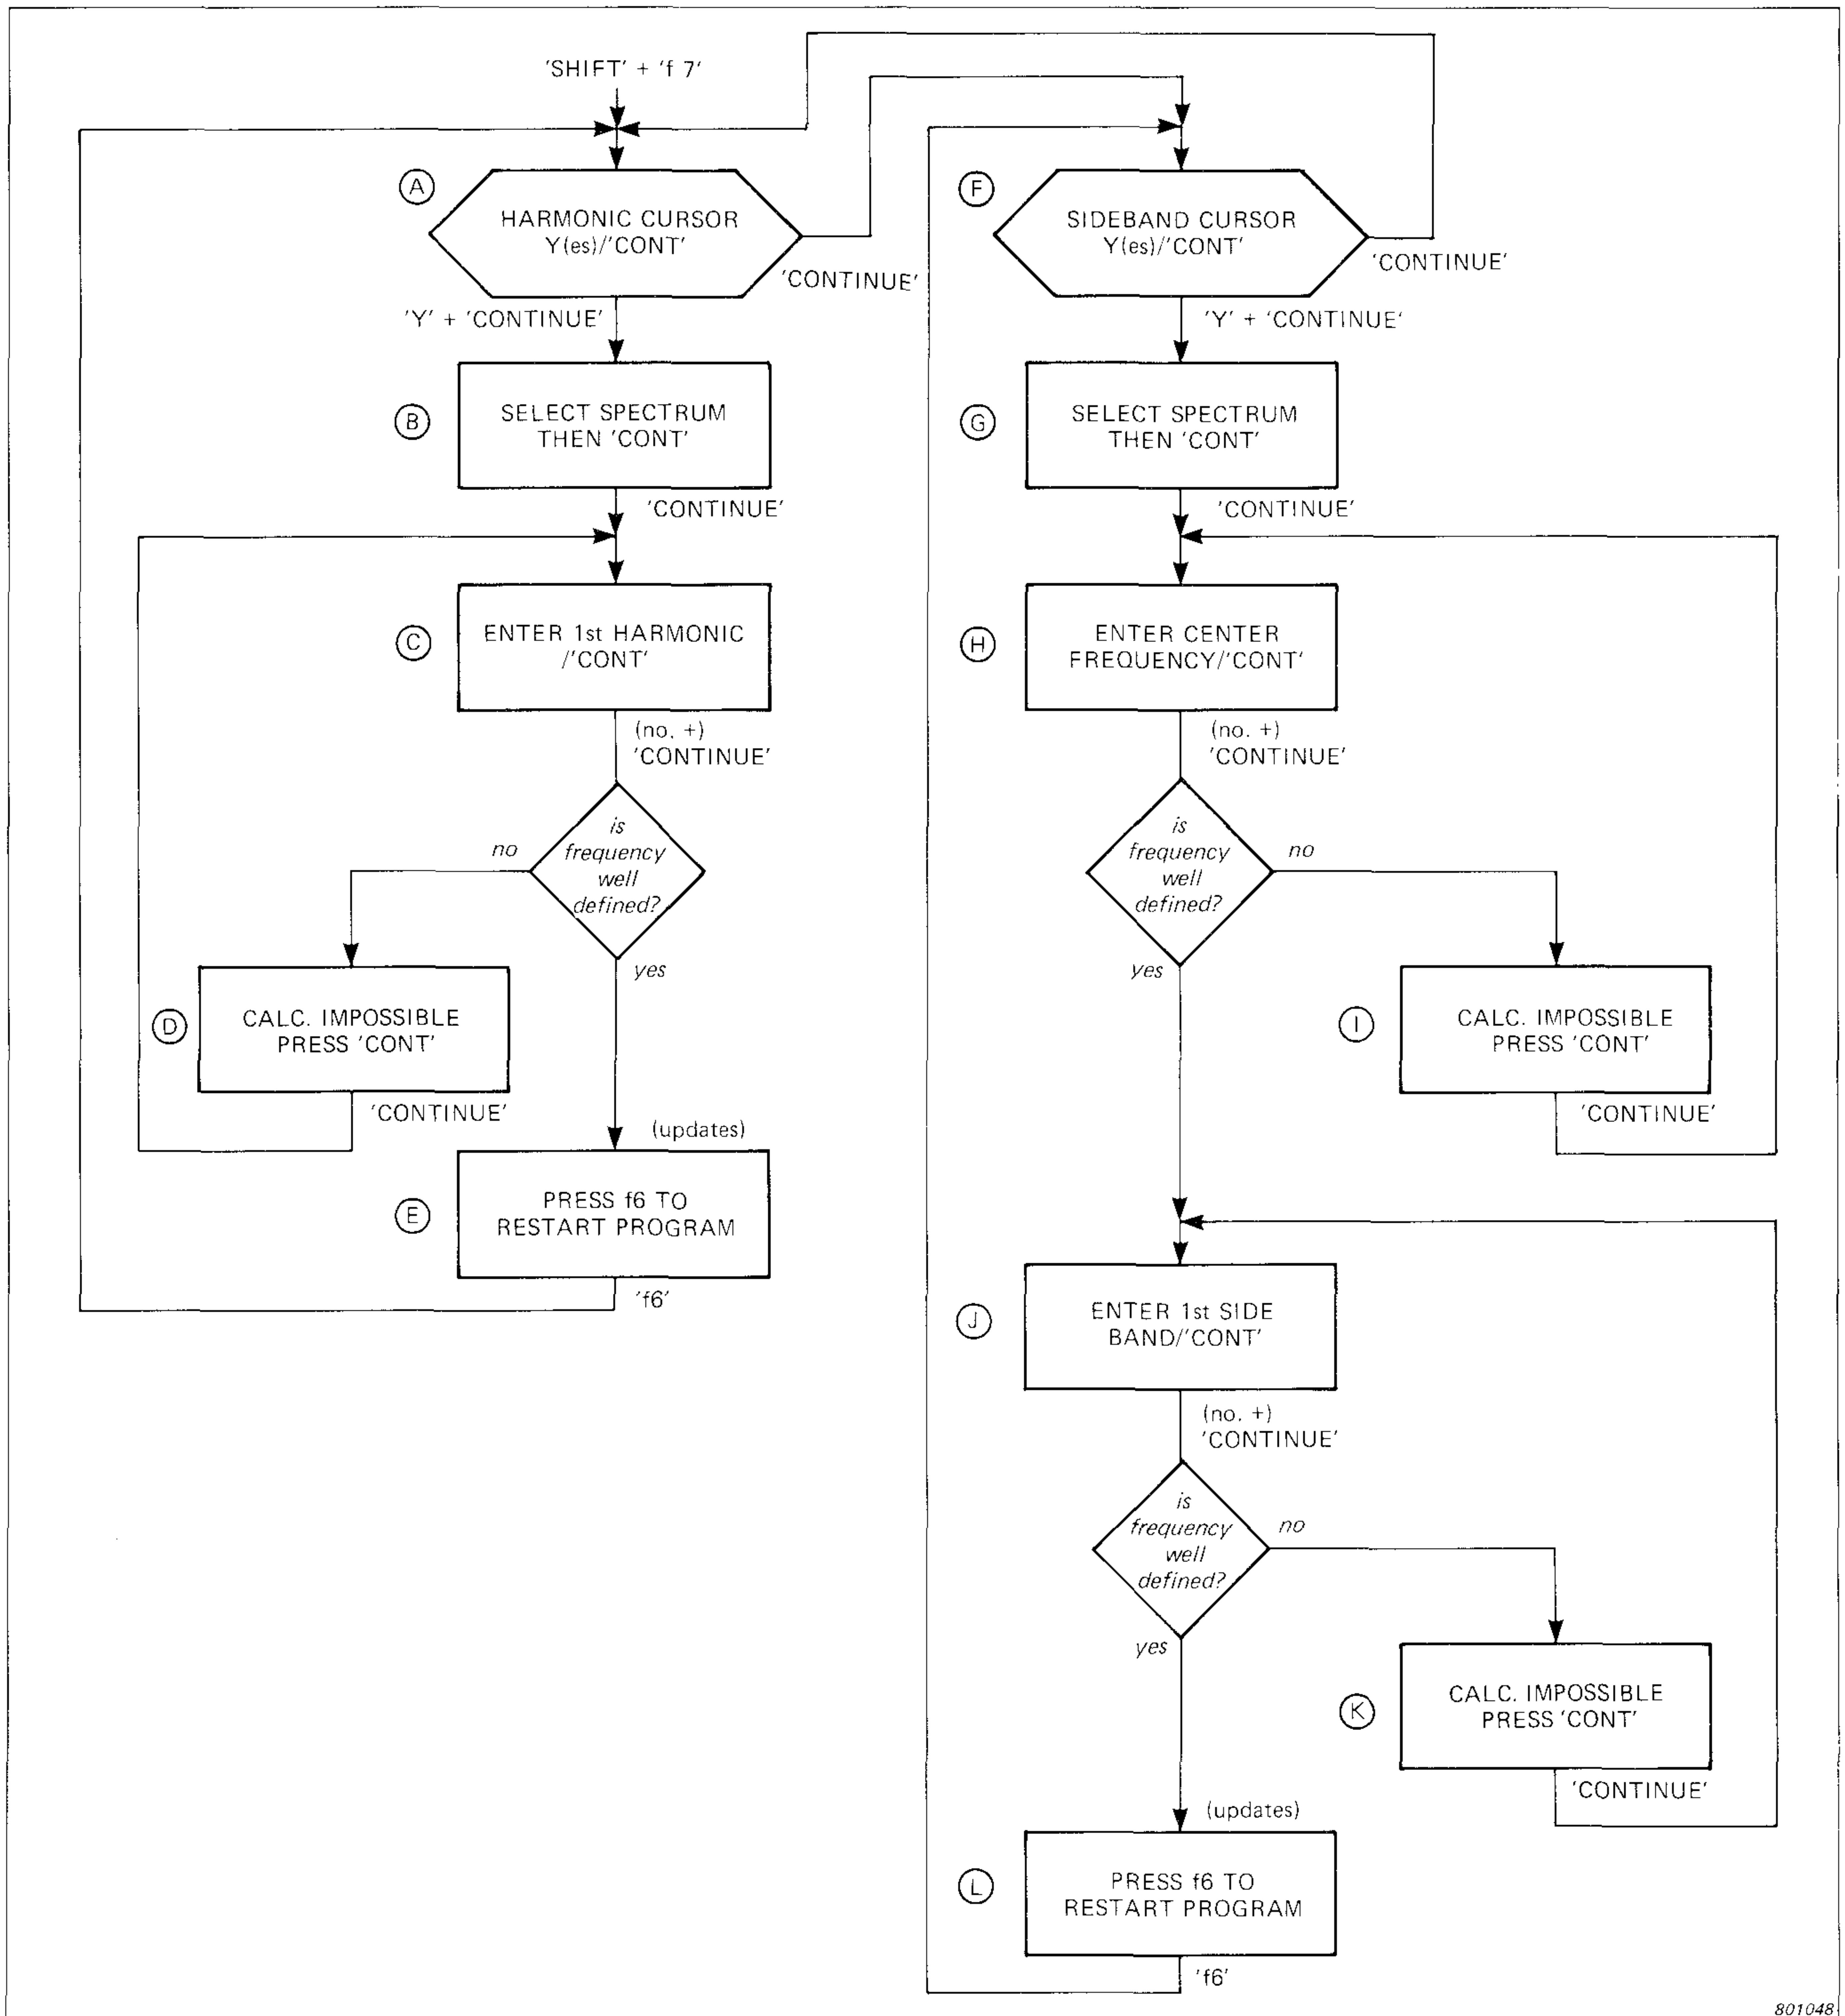

Fig.7.0. Flow Chart for HARMONIC AND SIDEBAND CURSOR Program
The circled letters refer to the instruction on the flow chart Fig.7.0. (A) to (E) refer to the harmonic section of the program and (F) to (L) refer to the sideband section.